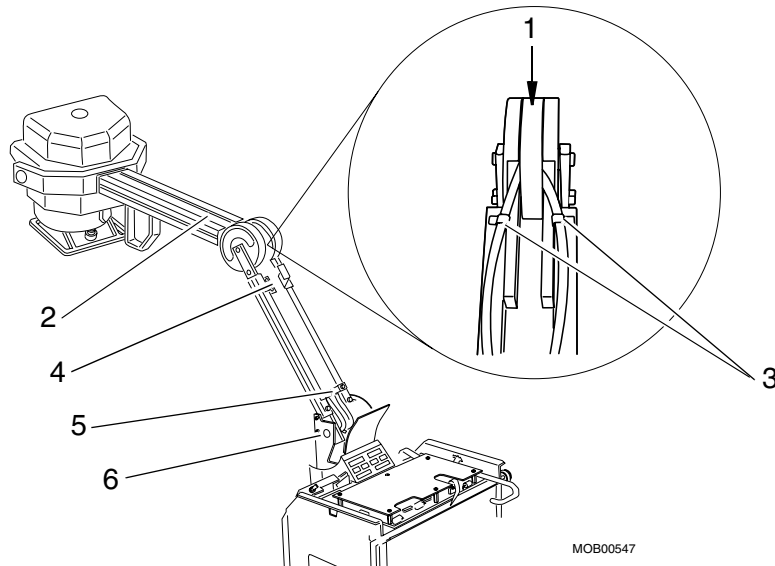

Fig. 11 Central cover of the upper joint
12. Remove all cable ties from the upper and lower arm, and from the articulated shaft (pos. 2, 4, 5 and 6 / Fig. 11).
13. Remove the central cover of the upper joint (pos. 1 / Fig. 11) by unscrewing four screws.
17. Loosen the cable clamps on the upper arm (pos. 3 / Fig. 11).